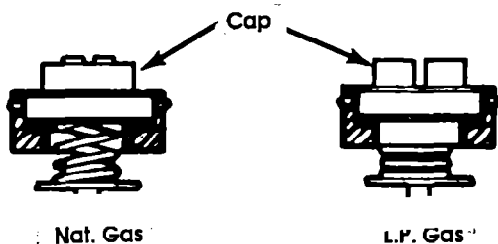

Figure 6
2. Remove the cap with screwdriver slot; turn it over; then replace the cap. This cap will then have the marking "LPG10". Do Not disturb or remove the spring beneath this cap. See Figure 6.